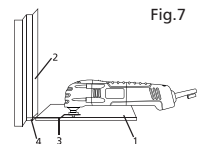

Fig.7
- Place a scrap piece or floor tile (1) on the floor about 1/2" (25 mm) from the door jamb (2) (Fig. 7).